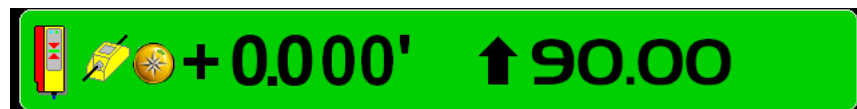

Figure 64: Elevation Control Key Matches Compass Adjustment
- Tap **Set**, and then **OK** to return to the main screen; the **Elevation Control Key** should now reflect your adjustment to the compass (Figure 64).